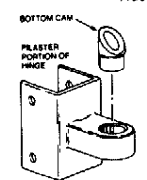

FIGURE 8.
- Insert bottom nylon cam into the pilaster portion of the hinge bracket assembly. See figure 8. The cam should be set to same desired position on upper and lower hinge assemblies. See figure 9.